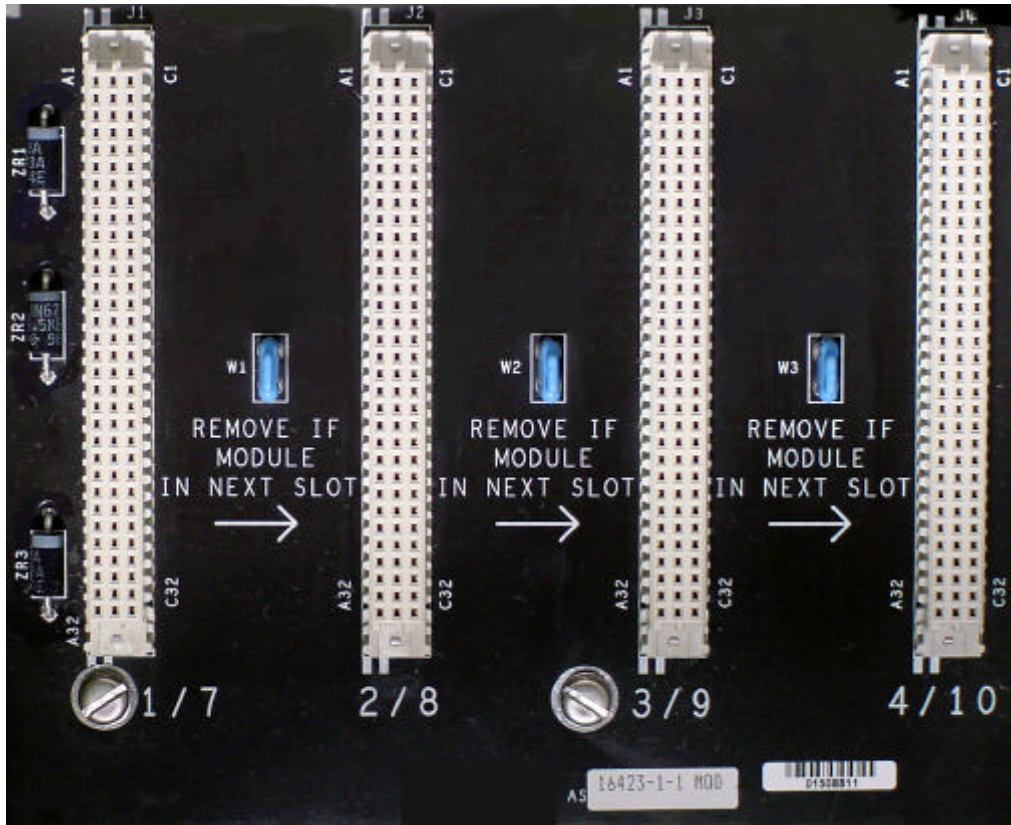
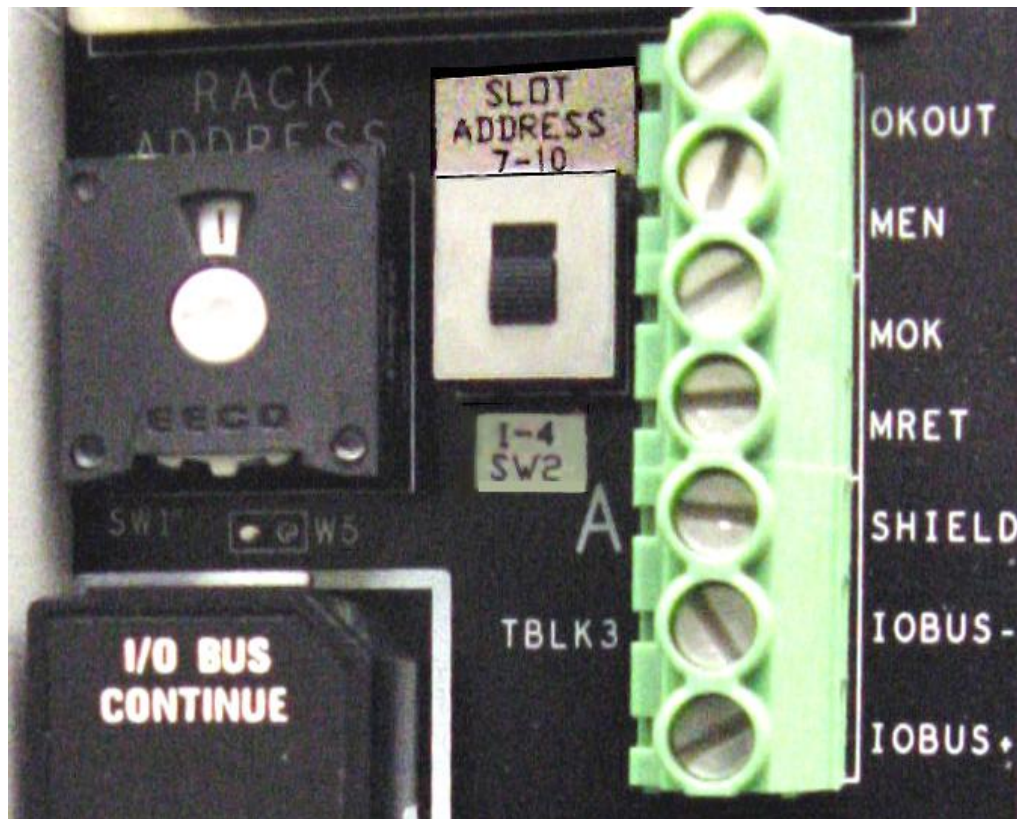

Figure 2-24 OK Loop Jumpers on Backplane
Figure 2-25 Rack Address and Slot Address Switches
Setting OK Loop jumpers W1 to W3 must precede the installation of modules. An empty Remote I/O Rack has all the jumpers installed (default) by the factory. As shown in Figure 2-24, a jumper is to be removed if a module is to occupy the next higher slot.
Addressing within an APACS+ or QUADLOG system requires that each rack be assigned a unique rack address. The Rack Address thumbwheel switch (SW1), located on the upper right side of the Remote I/O Rack’s backplane (Figure 2-25), is used to assign an address (1 to 16) to the rack. The address is used for software identification of I/O modules during system operation. The Rack Address switch is to be set in conjunction with the Slot Address switch described in section 2.7.
1. Locate the Rack Address switch on the backplane (Figure 2-25). The switch setting is visible through a window near the top of the switch.
The Slot Address switch (SW2), located on the upper right side of the Remote I/O Rack's backplane (Figure 2-25), is a slide switch used to set whether the Remote I/O Rack is to occupy lower slot addresses (1 to 4) for standalone use, or upper slot addresses (7 to 10) when used as an extension to another rack such as a SIXRAC. This is the reason each slot position is double-marked on the rack's backplane as shown in Figure 2-24. For example, the first slot is double-marked 1/7.
1. Locate the Slot Address switch (SW2) on the backplane (Figure 2-25). It is a two-position slide switch.